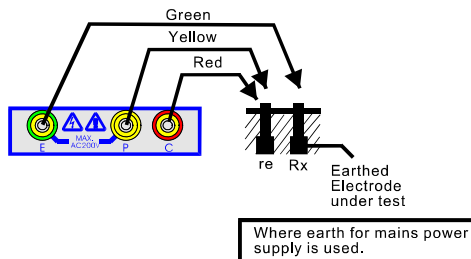

Figure 2.-
- (1) This method is recommended where an earth resistance higher than 10Ω is measured or where it is not possible to drive auxiliary earth spikes. An approximated value of the earth resistance can be obtained by means of using the double wiring method shown in the figure 2).
- (2) Rotary to function switch to **EARTH VOLTAGE** position and press TEST ON/OFF to test. Make certain that earth voltage is less than 10 V.
- (3) First rotary the function switch to **200Ω** position and press to test, read earth resistance. If the display shows "1" (MSD), switch to **2000Ω** position and read earth resistance.
- (4) The reading obtained (Rx) is an approximate earth resistance value. In order to make this measurement, terminals P (yellow) and C (red) must be short-circuited before.